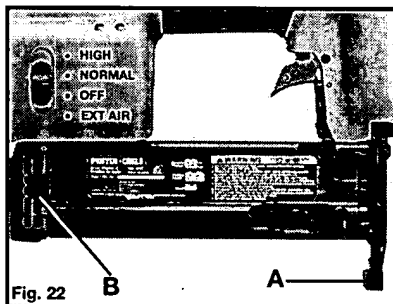

Fig. 22
This tool is equipped with a rubber nose cushion (A) Fig. 22, that prevents marring of finished surfaces by the metal safety during normal operation. The nose cushion can be removed and stored in the rear area of the magazine (B) Fig. 22, when it is not required.